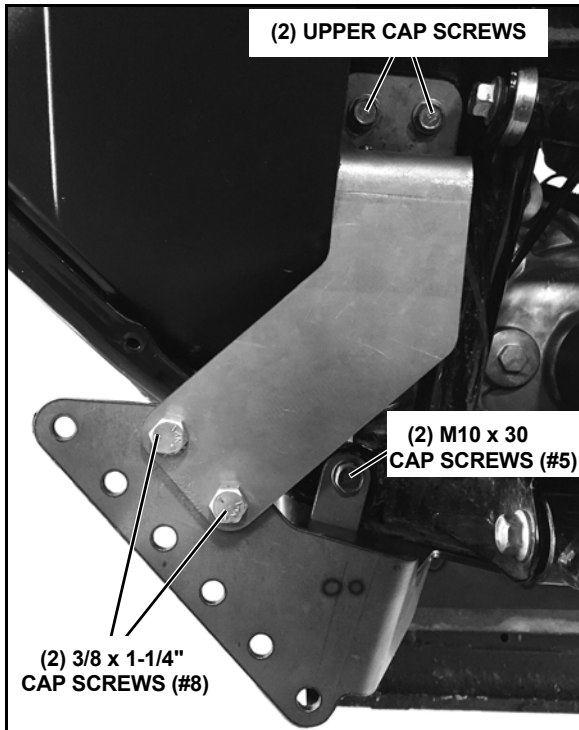

Figure 3
- Insert (2) M10-1.25 x 30 Cap Screws (#5), (2) M10 Lock Washers (#6), and (2) M10 Flat Washers (#7) into side holes of Bottom Bracket (#2), thru bumper/brush guard, and into the UTV frame. (See Figure 3.)
- On the drivers side, remove the two Upper Cap Screws that attach the bumper/brush guard to the frame. Align the holes of the Drivers Side Top Bracket (#3) with the holes in the bumper/brush guard and frame. Re-install the original two Cap Screws thru the Top Bracket (#3), bumper/brush guard, and into the frame. (See Figure 3.)
- Insert (2) 3/8"-16 x 1-1/4" Cap Screws (#8) thru the bottom holes of the Drivers Side Top Bracket (#3) and into the mating holes of the Bottom Bracket (#2). Secure with (2) 3/8"-16 Lock Nuts (#9). (See Figure 3.)